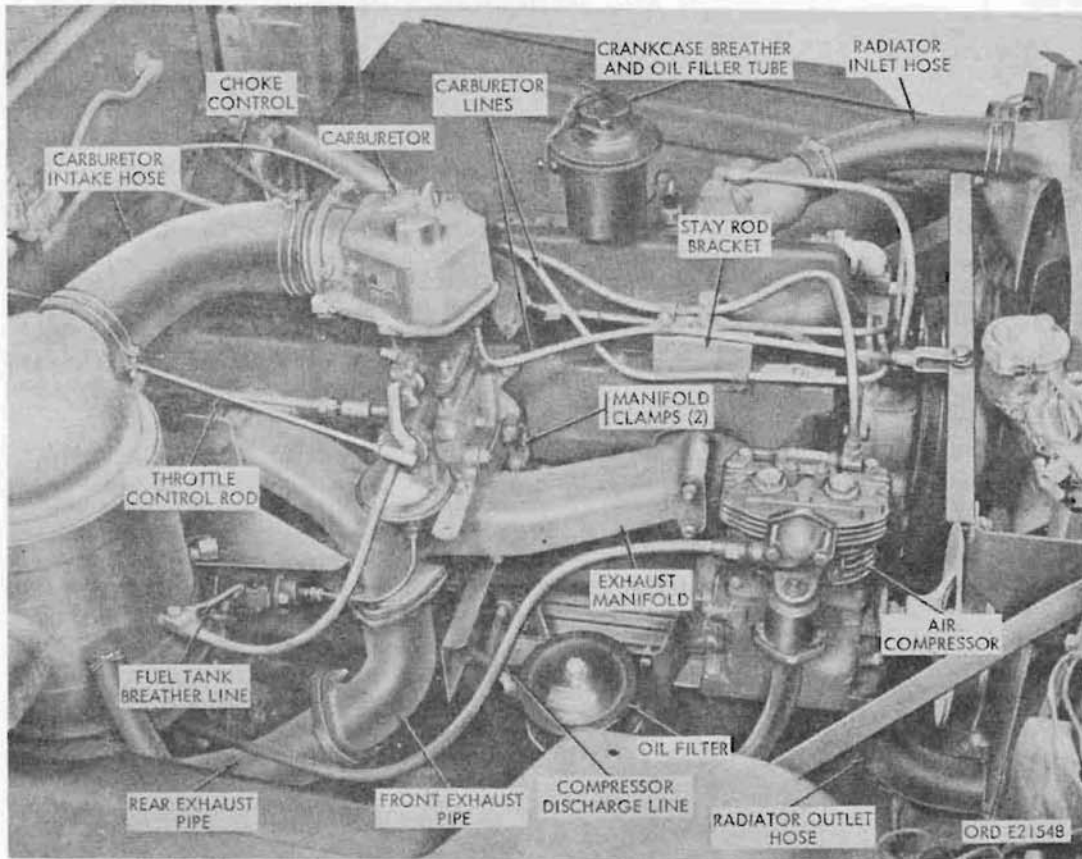
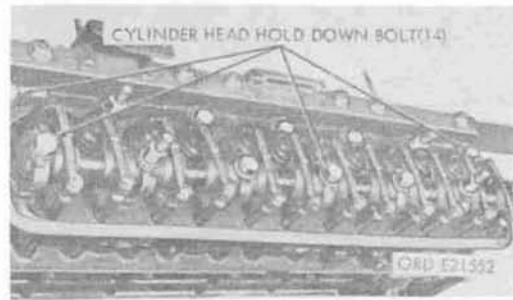

Figure 80. Right side of installed engine - gasoline
Figure 84. Cylinder head with valve rocker arm cover removed
- (1) Intake and exhaust manifold. The exhaust manifold (fig. 80) is at the right side of the cylinder head. The intake manifold, an integral part of the cylinder head, is provided with a mounting pad for the exhaust manifold heat control valve housing (fig. 80). This housing, mounted over the opening in the exhaust manifold, provides a direct passage from the carburetor (fig. 80) to the intake manifold passage in the cylinder head. The lower portion of the heat control valve housing is
- (4) Engine oil filter. A replaceable-element-type oil filter (fig. 80) is located on a mounting bracket bolted to the right side of the engine. When the engine is in operation, a portion of the oil is continuously circulated under pressure through the flexible inlet line, the filter and the flexible outlet line back into the oil pan.
- (5) Crankcase ventilation. The combination breather and oil filler (fig. 80), mounted on top of the valve rocker arm cover, is essentially an oil-bath
- (10) Disconnect the pump-to-carburetor line (fig. 80), valve-to-carburetor line, and valve-to-governor line from the carburetor, and pull the lines clear. Disconnect the shutoff valve control wire from the crankcase ventilation shutoff valve at the exhaust manifold heat control valve housing.
- (11) Disconnect the throttle control and choke control linkage at the carburetor (par. 60).
- (12) Disconnect the carburetor intake hose (fig. 80) by loosening the hose clamp at the carburetor. Pull the hose clear.
- (13) Disconnect the priming tee line (if present) from the tee nozzle at the rear of the cylinder head.
- (14) Disconnect the front exhaust pipe from the exhaust manifold (par. 43).
- (15) Remove 14 cylinder head holddown bolts and washers (fig. 84) securing the cylinder head to the cylinder block.